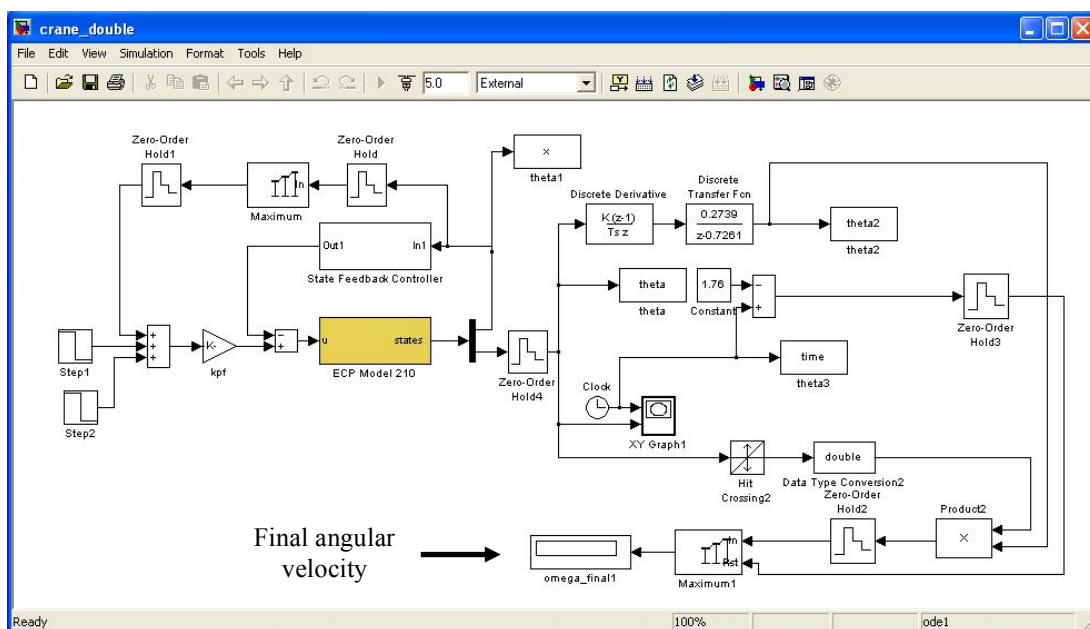

Figure 4: Screenshot of the 'crane_double' Simulink window.
2. Next, run the ‘crane_[strategy]’ file: push the ‘connect to target’ button and press the ‘play’ button once it turns black. After the ‘play’ button is pushed, the system should do nothing for 1 second, and then Cart 1 will move 4 cm to the left. The pendulum’s final angular velocity (in rad/s) will be recorded in the omega_final1 block (see Figure 4). Record this number in the appropriate location in your Excel spreadsheet. If you get an ‘internal error’ message after a run, just ignore it, push close, and carry on – the system will usually continue to work properly.